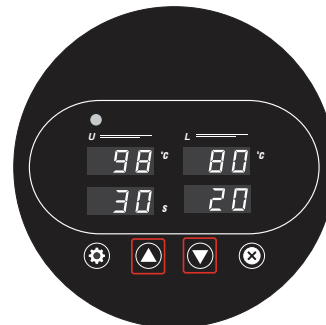

Fig. 2
2. Press Up **(H)** or Down **(I)** buttons to select the desired temperature (Fig. 2). The selected temperature is flashing on the display.